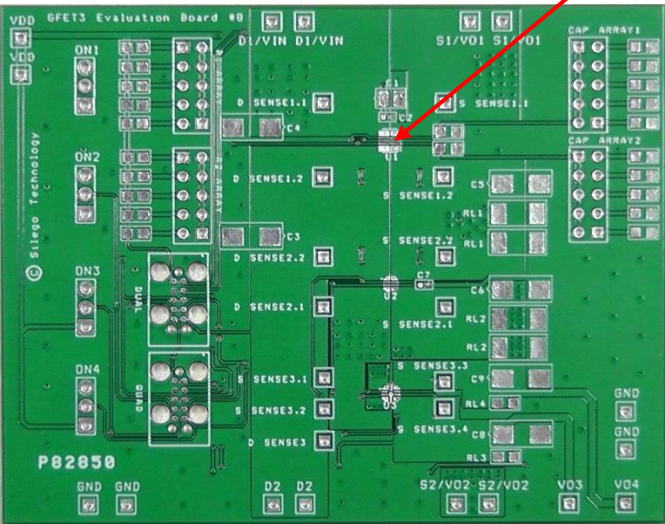

Figure 3. SLG59M1603V Evaluation Test Board
- 2.3. The D and S pins carry significant current. Please note how the D and S pads are placed directly on the power planes in Figure 3, which minimizes the RDS(ON) associated with long, narrow traces. The D and S pins dissipate most of the heat generated during high-load current condition. The layout shown in Figure 3 is illustrating a proper solution for heat to transfer as efficiently as possible out of the device.